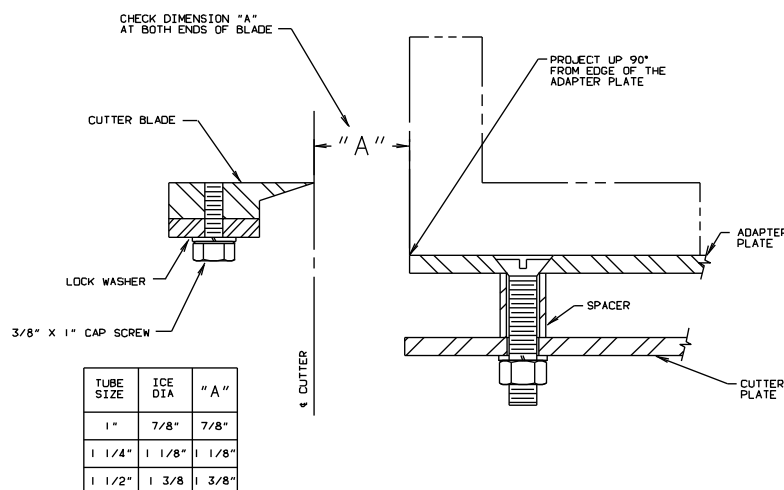

Figure 9-6
4. Refer to Figure 9-6; adjust each blade to dimension "A" and lock the blade in position by tightening the 3/8" cap screws. Note: Use a 90° square (as illustrated) to obtain the proper blade clearance required for satisfactory ice discharge. Dimension "A" is critical and should be measured at both ends of the blade. Note: 3/8" x 1" cap screw must be flush with cutter blade.
2. Locate the new adapter plate, holding the correct dimension "A" from the edge of the plate to the edge of the blade. See Figure 9-6.
See Figure 9-6 for illustration of this critical adjustment.